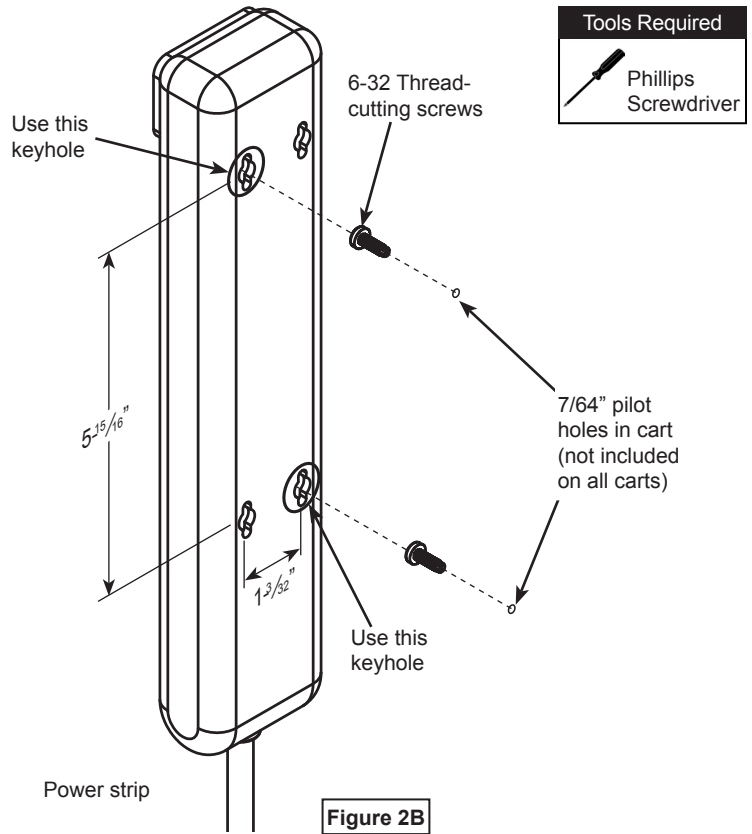

Figure 2B
1. Locate the two 7/64" holes on the cart (if equipped). **Figure 2B.**